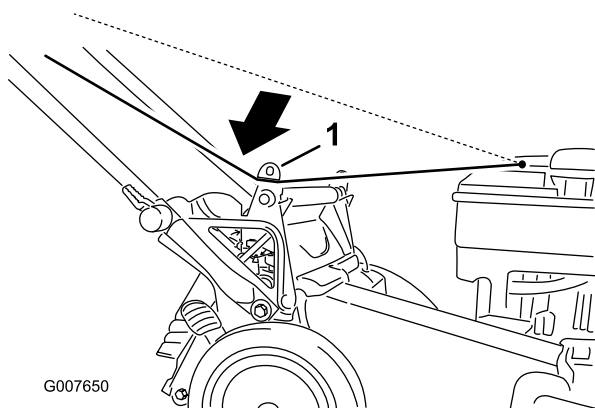

Figure 24
1. Route the starter rope around the lower-rope guide (Figure 24).